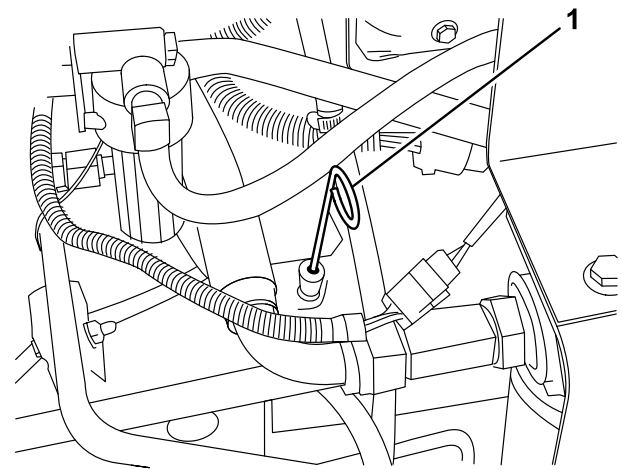

Figure 29
2. Remove dipstick (Figure 29), wipe clean and reinstall dipstick. Pull it out again and check oil level on dipstick: Oil level should be up to FULL mark on dipstick.